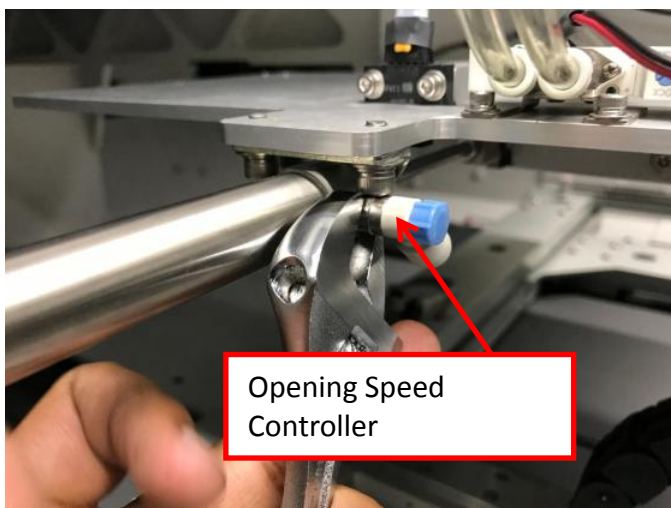

Figure 14 Opening Speed Controller Assembly
5. Assemble 2 x Speed Controller. Tighten both Speed Controller by using adjustable spanner as shown in Figure 14 & 15